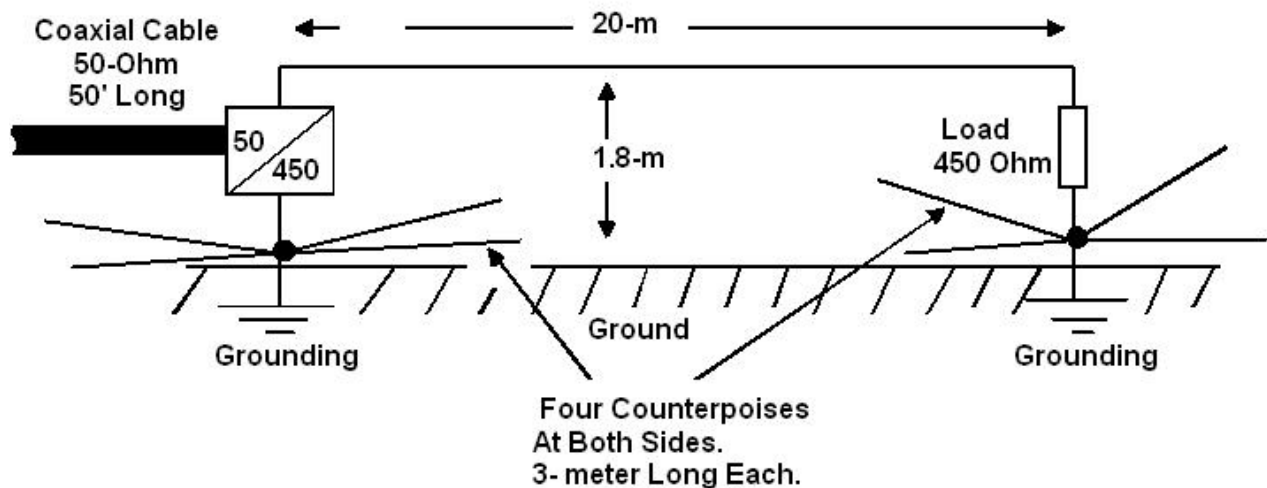

Figure 1
My Beverage Antenna ([Figure 1](http://www.antentop.org/019/va3znw_019.htm), that was described at: http://www.antentop.org/019/va3znw_019.htm) works well at my station. The antenna was successfully tested at CQ WW 160-Meter Contest (CW), CQ WPX (2016, CW) and ARRL International CW Contest (2016). I worked there with my IC- 718 using only 50... 90- W.